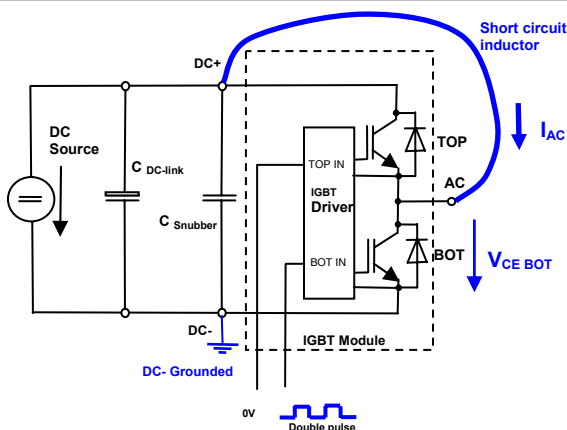

Fig. 5 V_{CEpeak} measurement on TOP IGBT.
- It is recommended to connect the negative polarity of the voltage probe to DC plus when measuring the V_{CE} of the TOP IGBT because this potential does not change. This reduces common mode noise on the measured signal. If the gate voltage of the TOP IGBT is also measured, the AC can be grounded (Fig. 5) and the minus polarity of the voltage probes have to be connected to this AC.